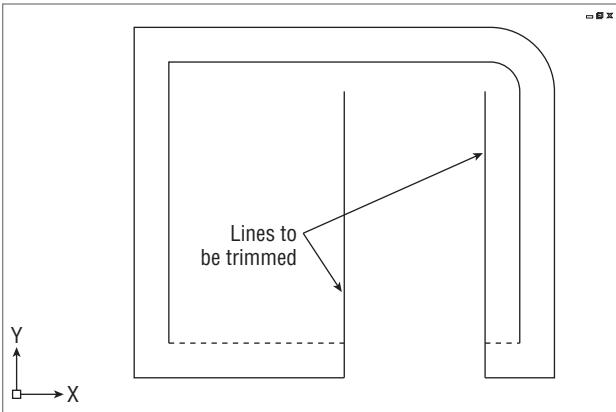
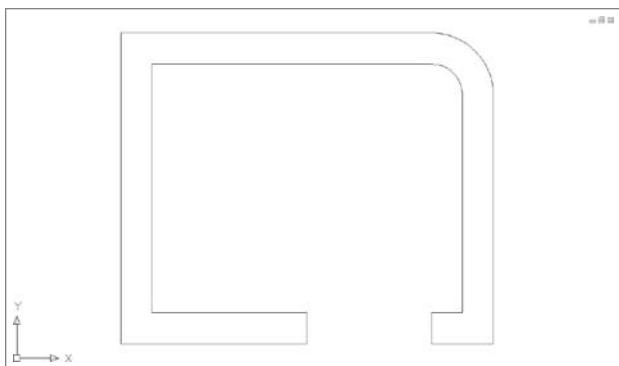

FIGURE 2.36 Lines picked to be trimmed
FIGURE 2.37 The completed trim
3. Pick the two vertical lines that extend above the new opening. Be sure to pick them above the opening (see Figure 2.36). The lines are trimmed away, and the opening is complete. Press ↴ to end the TRIM command (see Figure 2.37).